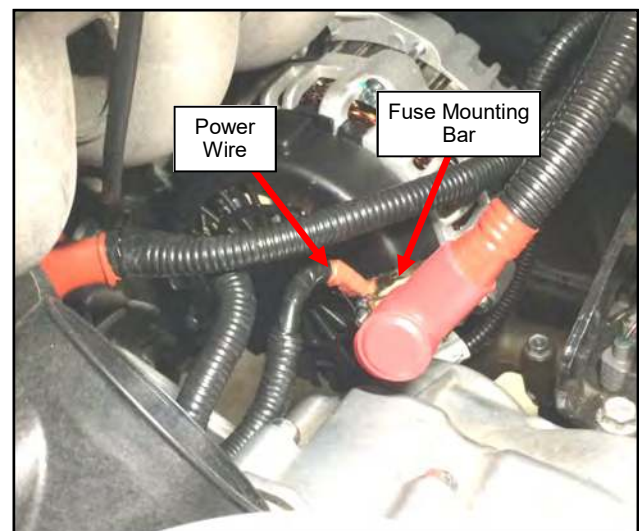

Fig. 4.3 (Install Vehicle's Power Wire)
- 4.3** Install Fuse Mounting Bar with Engine Side Harness and the vehicle's power wire (disconnected on step 2.12) to the back of the alternator power stud as shown in fig 4.3. Next, route the engine side harness towards the vehicle's battery.